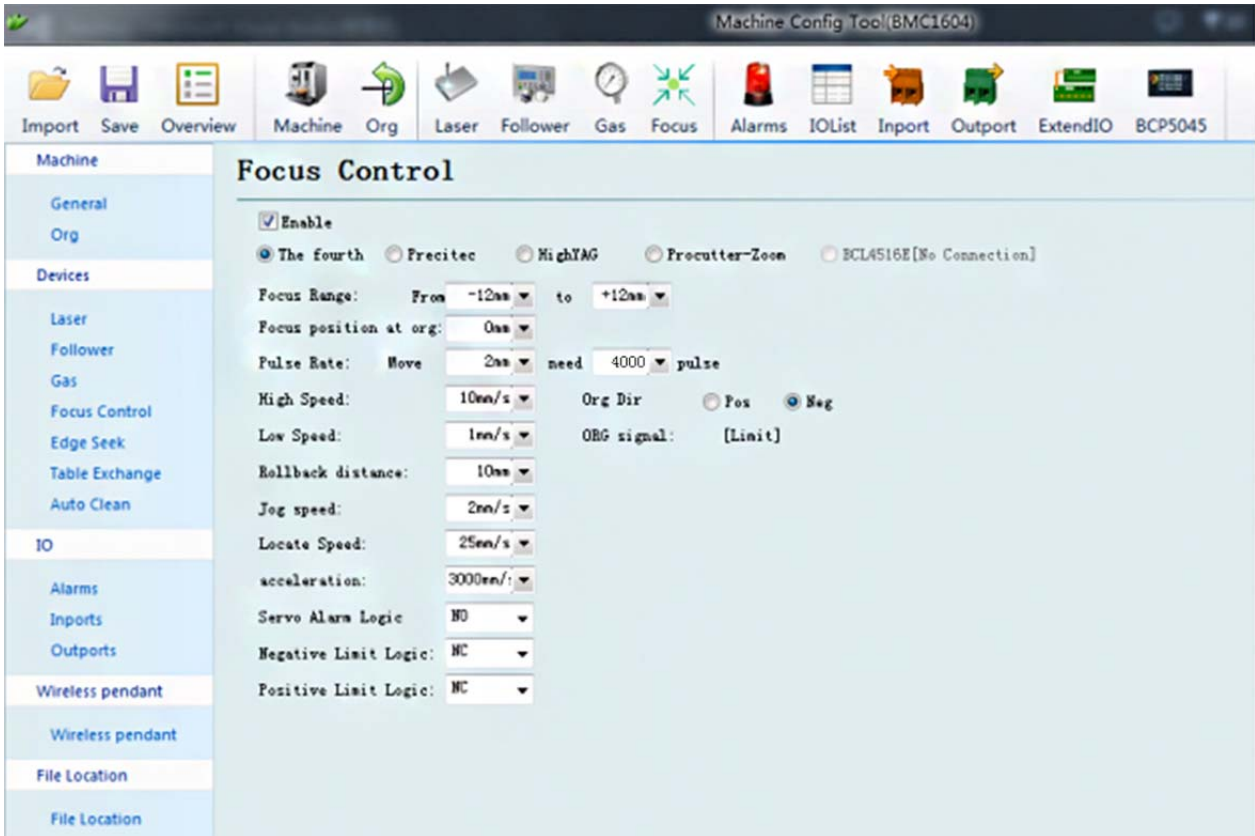

Figure 3.1 - Platform Configuration Tool
- Open the platform configuration tool and enter the value shown in Figure 3.1.
- Set parameters as in Figure 3.1(only for reference).